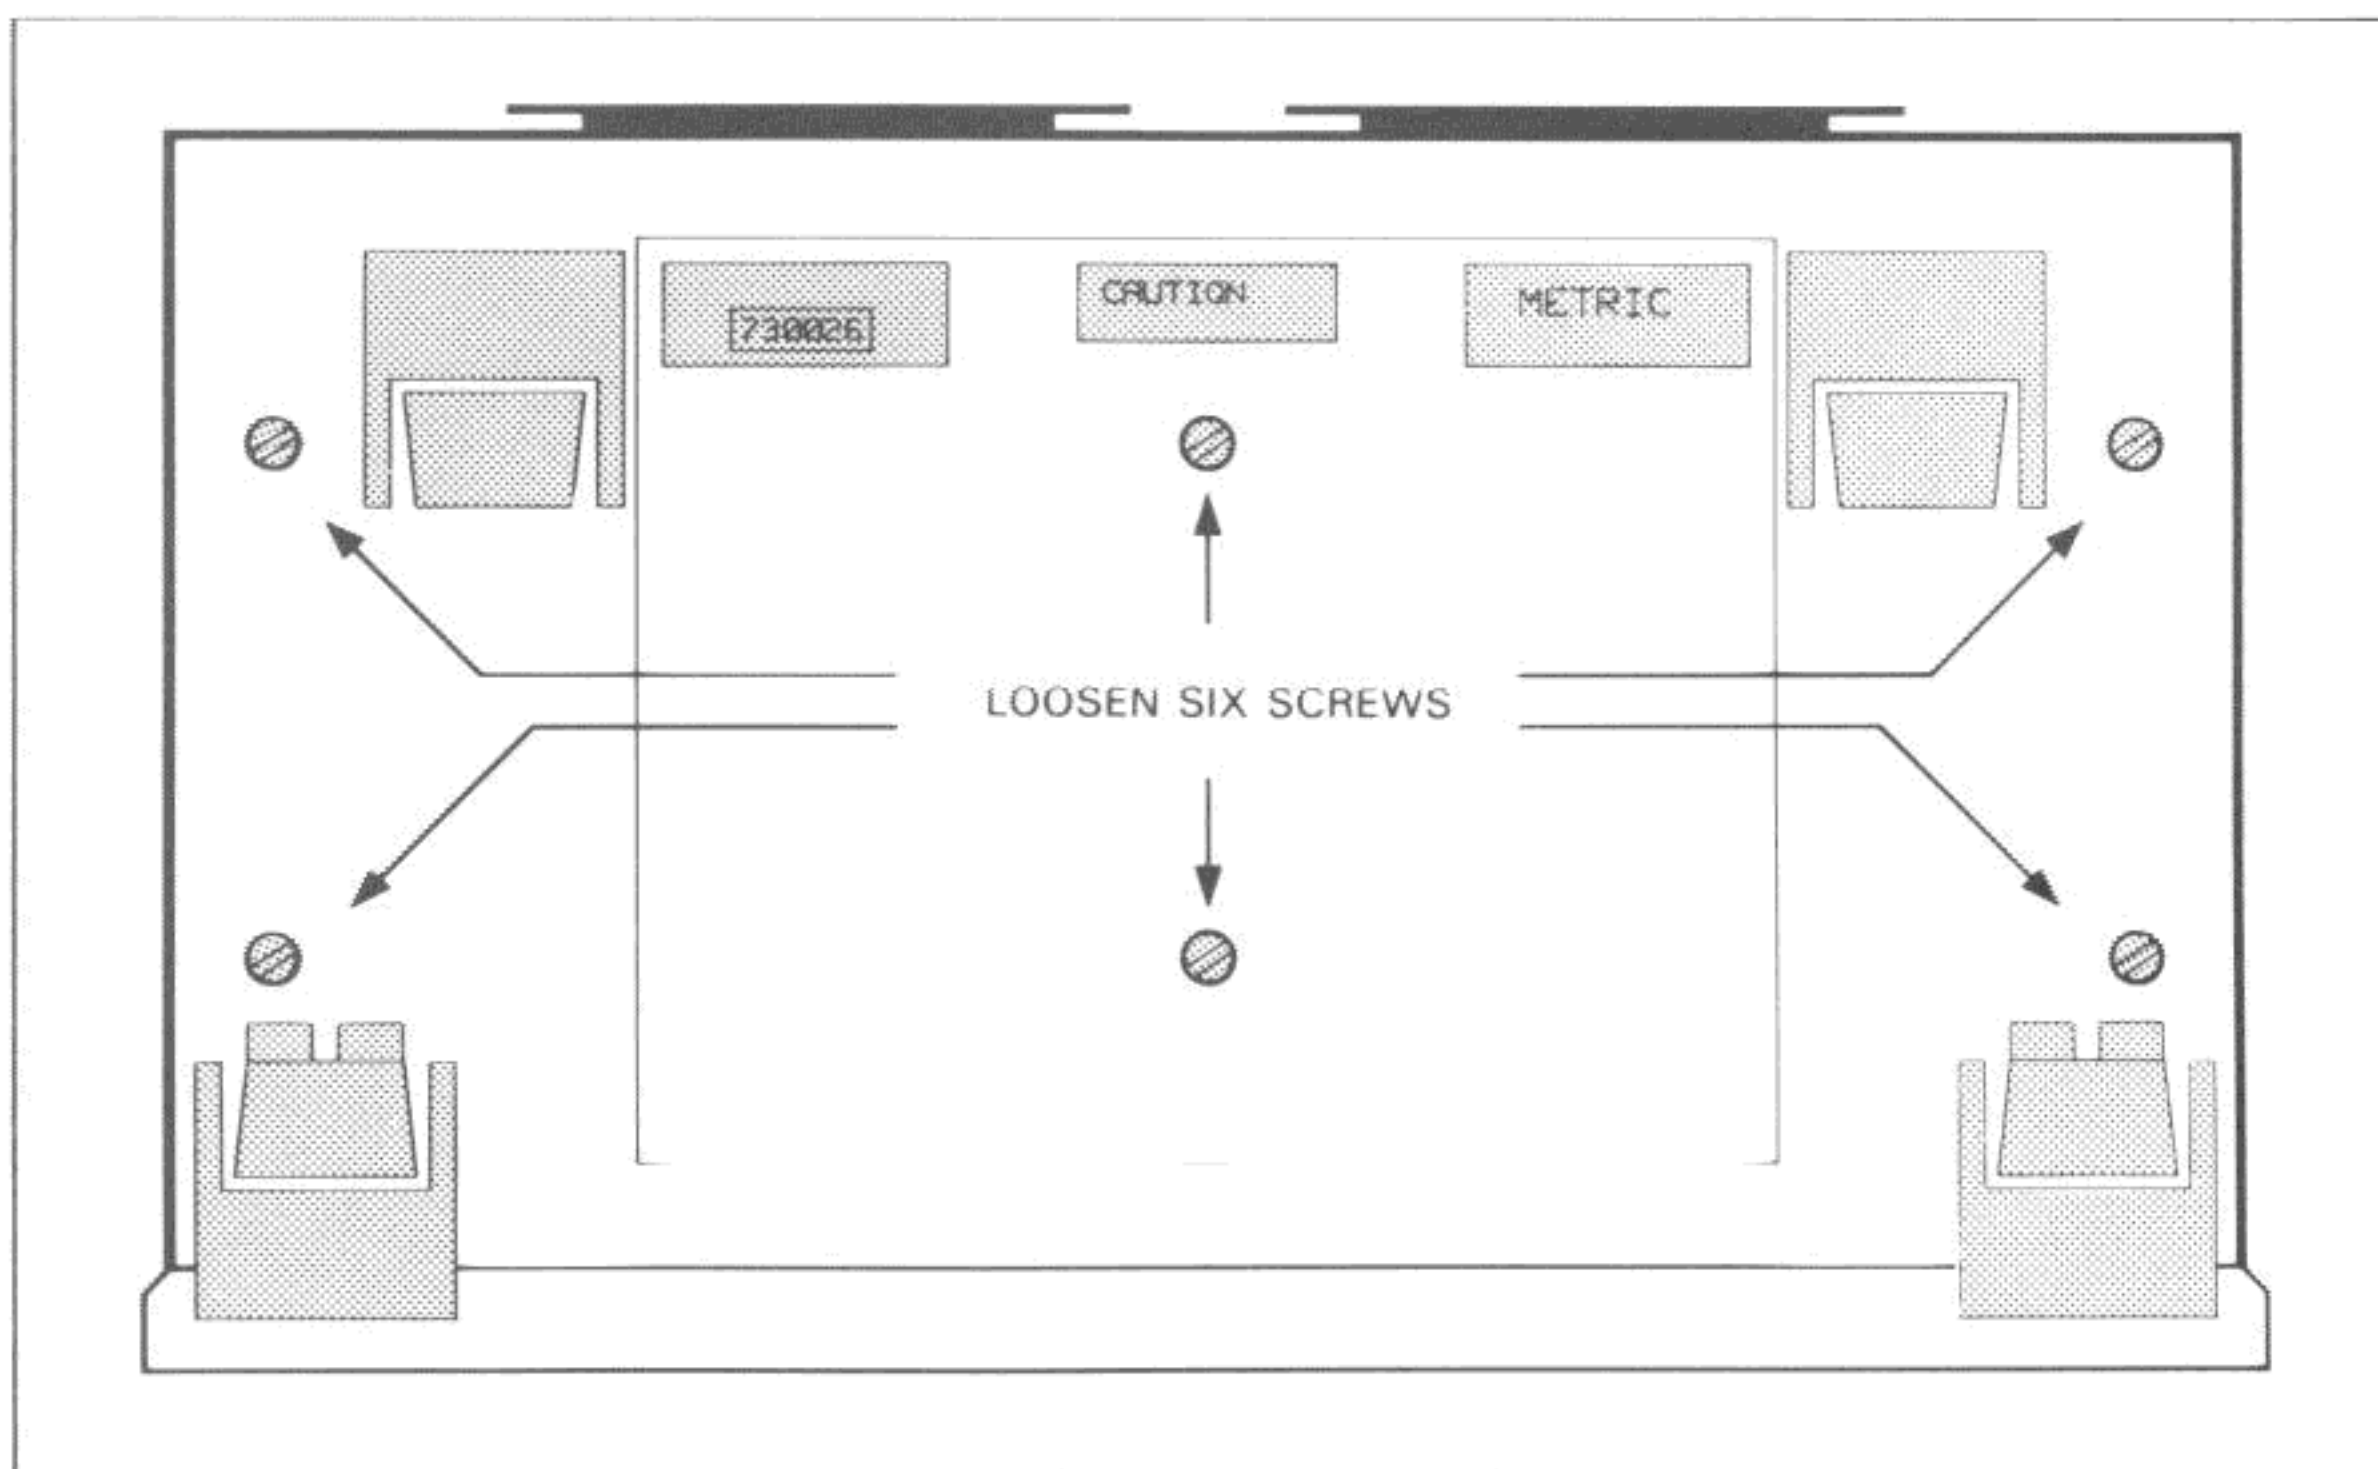

Figure 1-8-4. Loosen Bottom Screws
- b. Turn the instrument upside down. This is preferably done on top of a protective mat to reduce the possibility of scratching or marring the instrument case. Refer to Figure 1-8-4 and loosen the six screws on the instrument bottom.